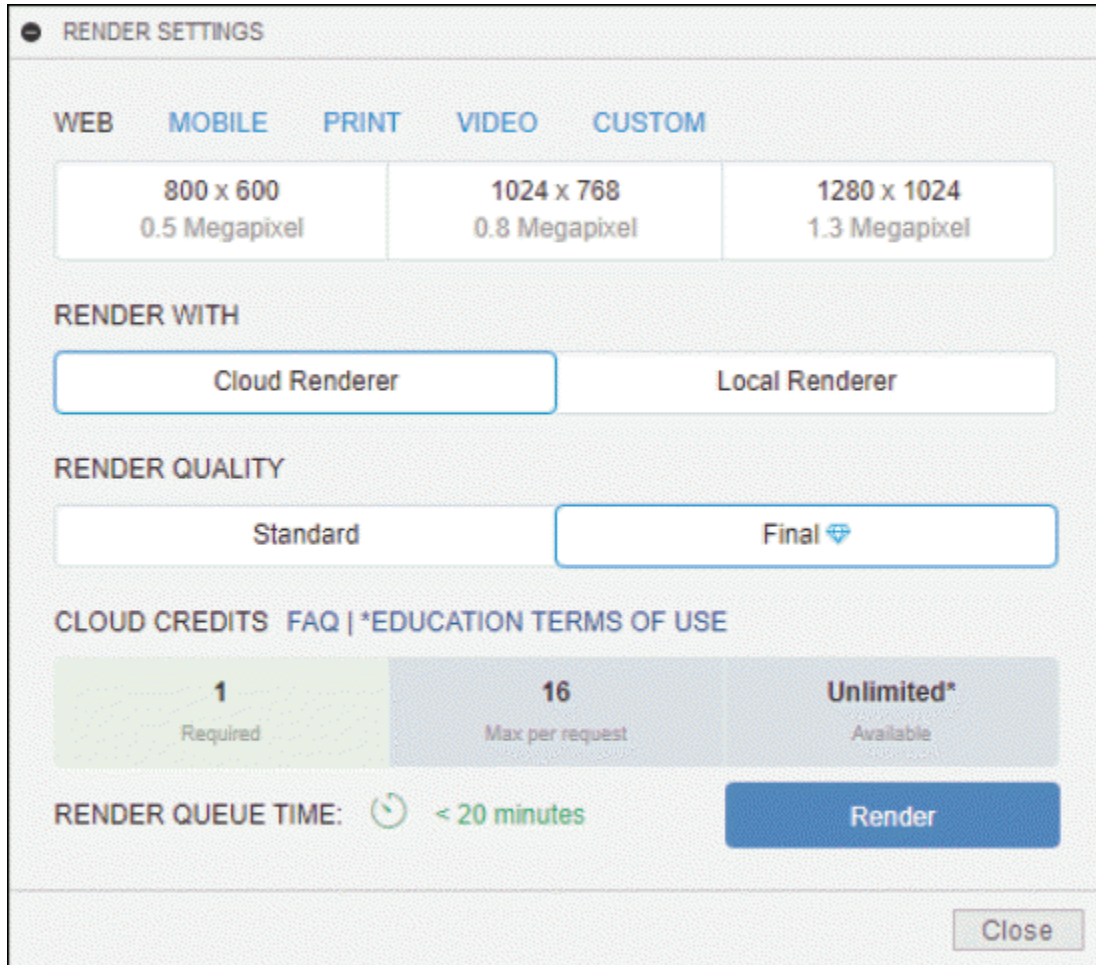

Figure-22. WEB tab
- Click on the **WEB** tab of **RENDER SETTINGS** dialog box. Various options under **WEB** tab will be displayed; refer to Figure-22.